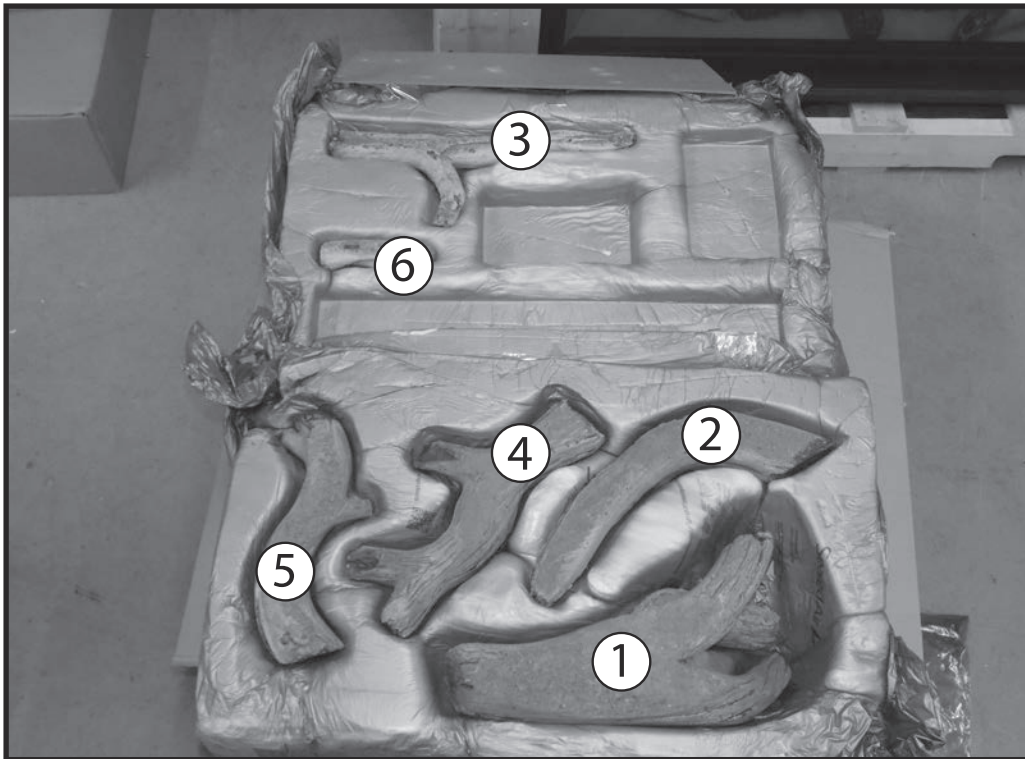

Figure 94: Driftwood log set.
7. Locate the Driftwood log set (Figure 94) and install as follows: